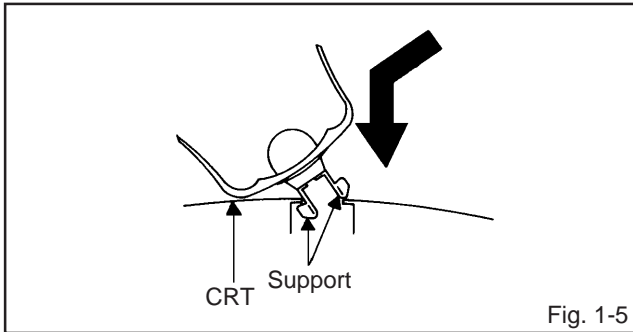

Fig. 1-5
4. Insert one end of the Anode Support into the anode button, then the other as shown in **Fig. 1-5**.